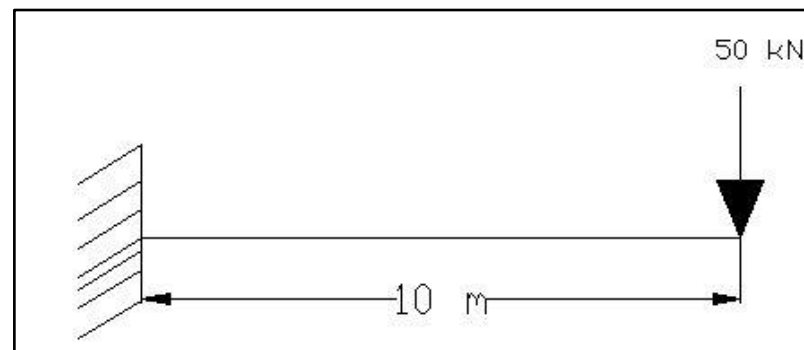

Fig.6
- (b) Determine the maximum bending stress that will develop in the beam as shown in Fig.6. Beam has cross section of 200 mm width and 450 mm depth and Young's modulus $2 \times 10^5 \text{ N/mm}^2$.